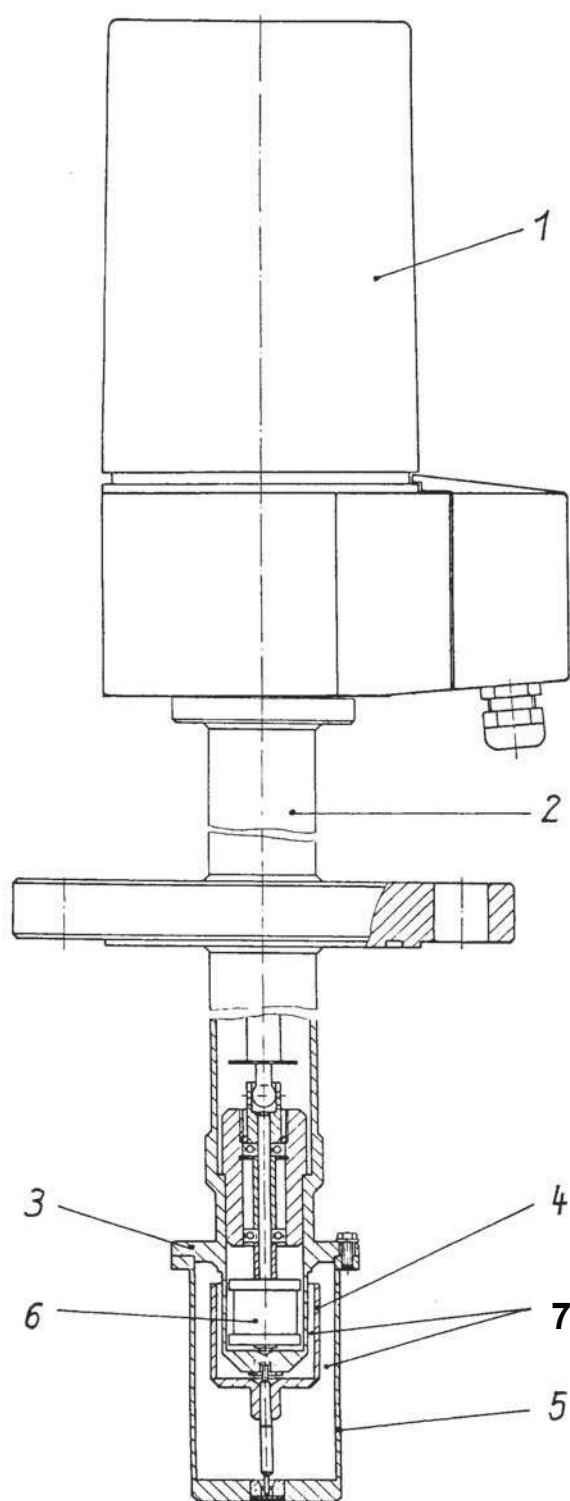

Fig. 6.: PV100-TM Process Viscometer (pressure-proof)
The PV100 Process Viscometer (Fig. 6 and 7) consists of two basic components: **measuring head** (1) and **immersion-type measuring device TM** or **flow-through measuring device DM** (2). In Process Viscometers with pressure-proof immersion or flow-through measuring devices, the measured substance is sheared in the ring gap (7) of the cylinder system. It consists of a stationary inner cylinder - measuring sleeve (3) - and a hollow cylinder - measuring element (4) - and the stationary outer cylinder - measuring cup (5). A permanent-magnetic coupling transmits a constant angular velocity from the viscometer drive onto the measuring element in the pressure-tight measuring location.